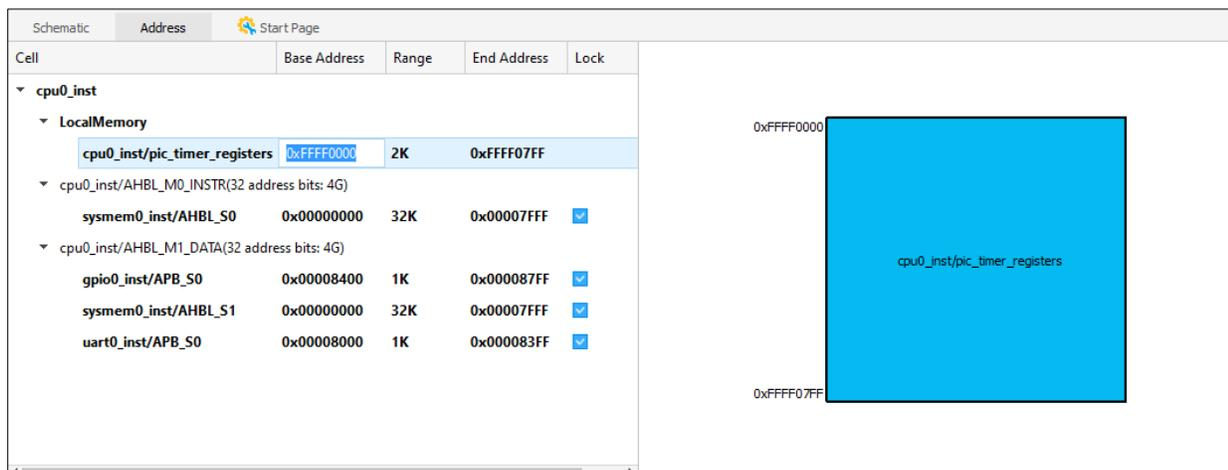

Figure 2.67. Edit Base Address
3. (Optional) Double-click the base address in Address view (Figure 2.67). Type the new value and press **Enter**. Values must align with 1K boundaries, such as 0x00000400, 0x00000800, or 0x00000C00. The end address value changes based on the new value. The Lock option is selected automatically at this time.